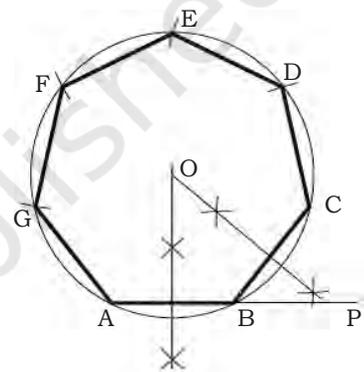

Fig. 1.24: Drawing a polygon
4. Bisect the lines AB and BC. The bisectors intersect at point O as shown in Fig.1.24.